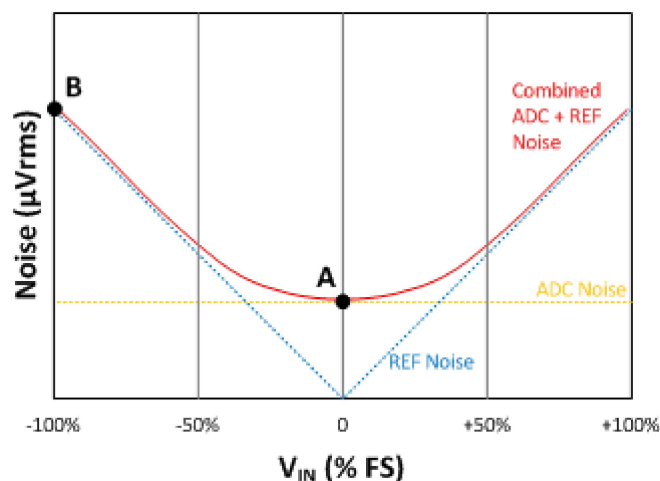

Figure 2: ADC and reference noise vs. input voltage
The effect of reference noise,  $N(V_{REF})$ , on the ADC conversion result is not quite as straightforward, however, because  $N(V_{REF})$  appears in the denominator. When the numerator is equal to zero (as is the case when the ADC inputs are shorted), the ratio will always equal zero and the  $N(V_{REF})$  term will not effect on the ratio. When the numerator is nearly equal to the denominator,  $N(V_{REF})$  will have a strong effect on the ratio. When ratio values are between 0 and 1, the effect of  $N(V_{REF})$  is weighted by the value of the ratio. Figure 2 shows the resulting characteristic behavior.
- When adding reference noise to the ADC's noise contribution using root-sum-of-squares addition, the combined noise performance is a function of the input voltage, which increases for larger positive or negative input voltages. The important points to notice on the curve in Figure 2 are: